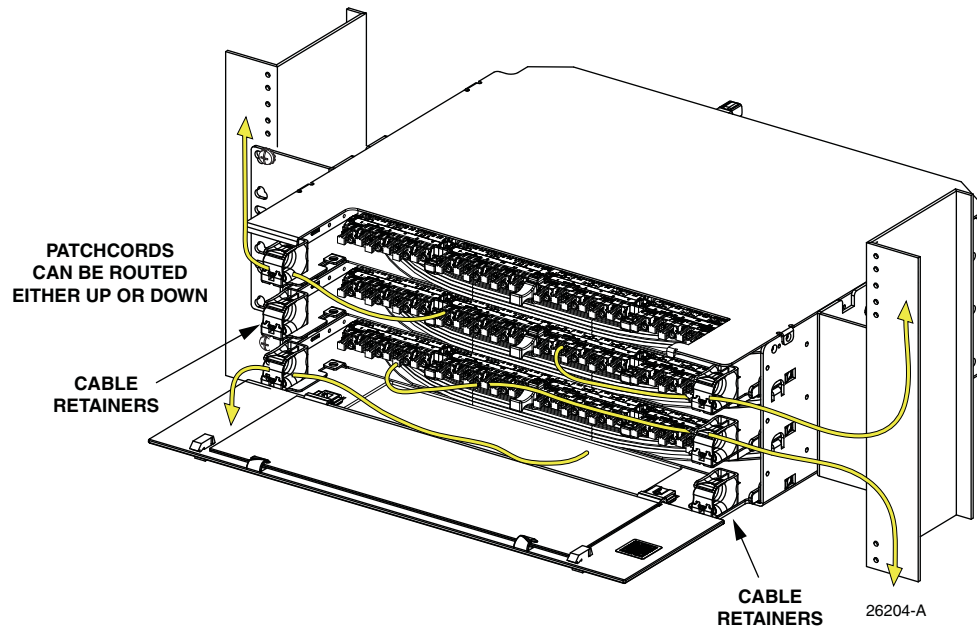

Figure 66. Patch Cord Routing To Both Sides
6. Route the patch cords from the center of the panel outward to either side of the panel or to one side as shown in Figure 66.